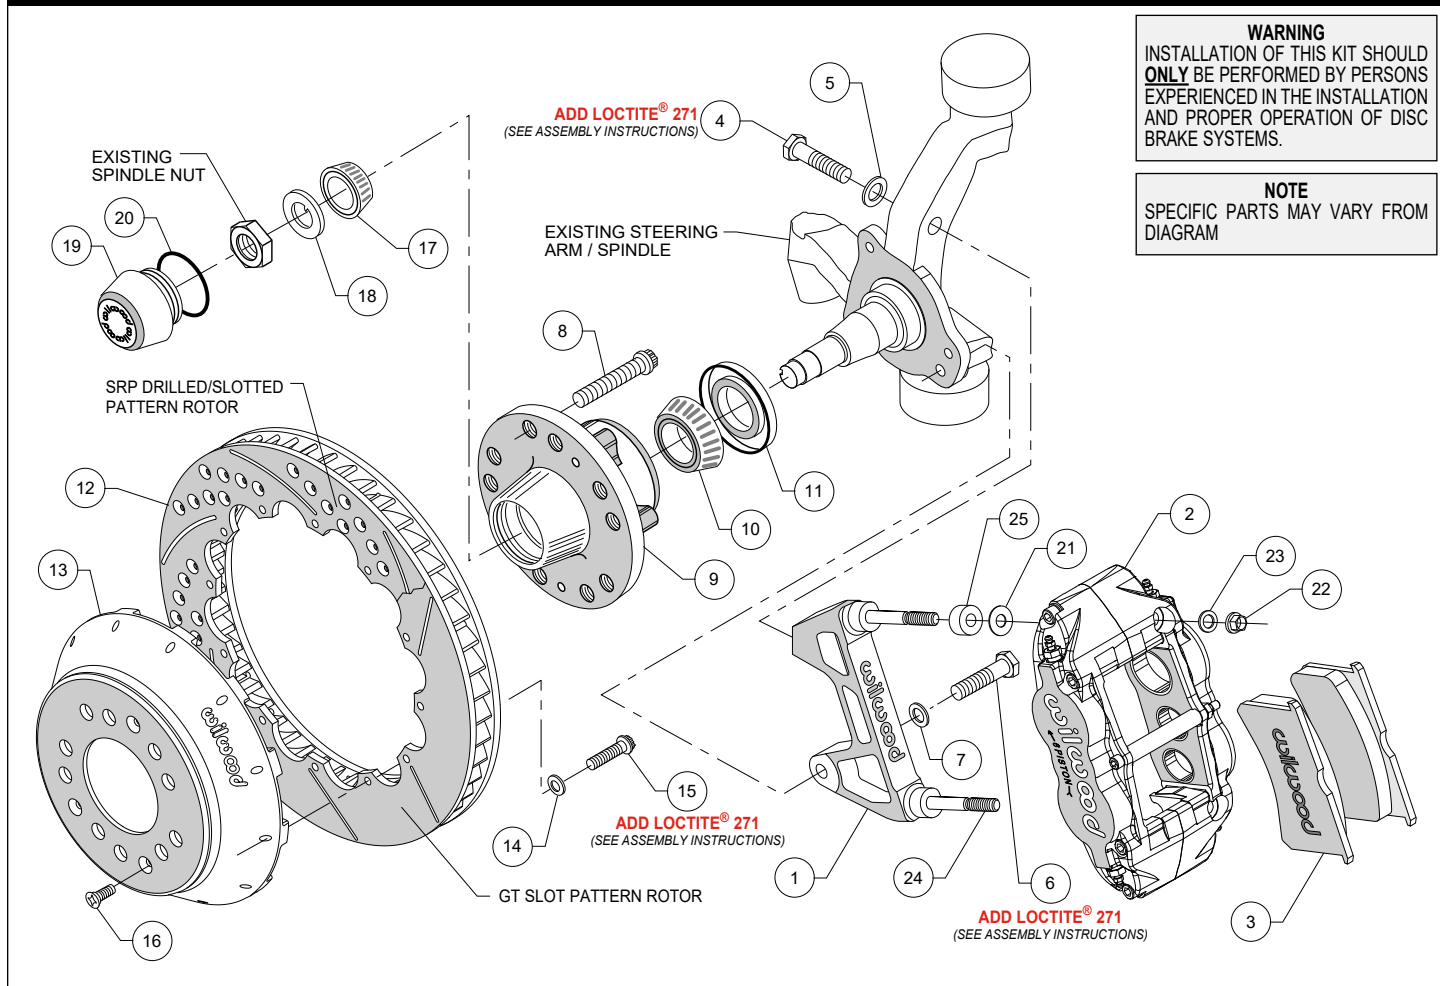
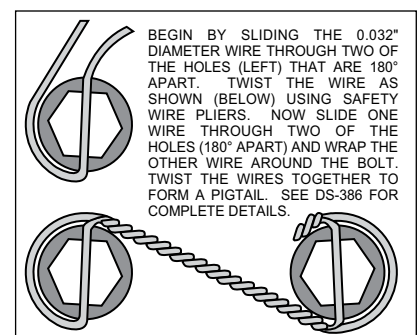

Figure 1. Typical Installation Configuration
Figure 3. Safety Wire Diagram
**NOTE:** Numbers in parenthesis refer to the parts list and Figure 1 on the preceding pages.
- The caliper mount bracket assembly (1) should be installed first with clean, dry threads on the mounting bolts. Install the bracket from the rear side of the spindle by sliding the upper mounting bolt (4) through flat washer (5) and the upright into the upper bolt hole on the bracket. Attach the lower portion of the bracket by sliding bolt (6) through flat washer (7) and into the lower hole on the backside of the spindle. The bracket must tighten squarely against the inboard side of the spindle face plate/upright. Inspect for interference from casting irregularities, machining ridges, burrs, etc. If everything fits correctly, then remove the mounting bolts (4 and 6), coat threads with red *Loctite*® 271 and reinstall. Torque bolt (4) to 65 ft-lbs., and bolt (6) to 42 ft-lbs.
- Install wheel studs (8) into the hub (9). Torque to 77 ft-lb. **NOTE:** There are two lug patterns of five holes each in the hub (5 x 4.50 and 5 x 4.75). Make sure of the correct hole pattern for the wheel application before installing the studs into the hub.
- Pack the large inner bearing cone (10) with high temperature disc brake bearing grease (available from your local auto parts store) and install into the backside of the hub (9).
- Install the grease seal (11) into the backside of the hub (9).
- Pack the small outer bearing cone (17) with high temperature disc brake bearing grease and install into front side of the hub (9). Slide the hub assembly (9, 10, 11 and 17) onto the spindle. Secure using spindle washer (18), stock adjusting nut, and nut locking device. Adjust wheel bearing pre-load per Original Equipment Manufacturer (OEM) specifications.
- Install the O-ring (20) and the dust cap (19) into the hub (5). **NOTE:** O-ring (20) friction will not allow cap (19) to unscrew on its own.
- With the larger I.D. side of the rotor (12) facing away from the hat (13), bolt rotor (12) to hat (13) through the backside of the rotor using washers (14) and bolts (15). Apply red *Loctite*® 271 to the bolt threads and torque to 155 in-lb using a criss-cross pattern. For an added measure of security, the bolts may be safety wired using standard 0.032 inch diameter stainless steel safety wire as shown in Figure 3. Please refer to Wilwood's data sheet DS-386 (available at [www.wilwood.com/Pdf/DataSheets/ds386.pdf](http://www.wilwood.com/Pdf/DataSheets/ds386.pdf)) for complete safety wire installation instructions.
- Slide the rotor/hat assembly over the studs (8) in the hub (9) taking care to align the small countersunk holes in the hat (13) with the small threaded holes in the hub (9). Install three flat head socket head screws (16) through the small holes in the hat (13) and torque to 85 in-lb. Check to be sure the hat seats squarely against the spindle.
- NOTE:** *This kit contains distinct right and left hand calipers that must be mounted in a specific direction, as described below.* Initially place one .035" thick shim (21) and spacer (25) on each stud as shown in Figure 1. Mount the caliper (2) onto the bracket (1) using lock nuts (22) and washers (23), Figure 1. Ensure that the caliper is mounted so that the largest pistons are at the rotor exit end of the caliper, in relation to the direction of rotor rotation.
- Remove the caliper center bridge pad retainer bolt, nut, and tube from the caliper. Slide the brake pads (3) into place. They should install easily without interference. Check that the outside radius of the brake pad is aligned with the outside diameter radius of the rotor face. Add or subtract shims (21) between the caliper and mount bracket to gain the proper alignment, reinstall the caliper and torque the caliper nuts (22) to 28 ft-lb. Reinstall the center bridge pad retainer tube, bolt, and locknut. The locknut should be snug without play in the bolt or tube. Be cautious not to over tighten.